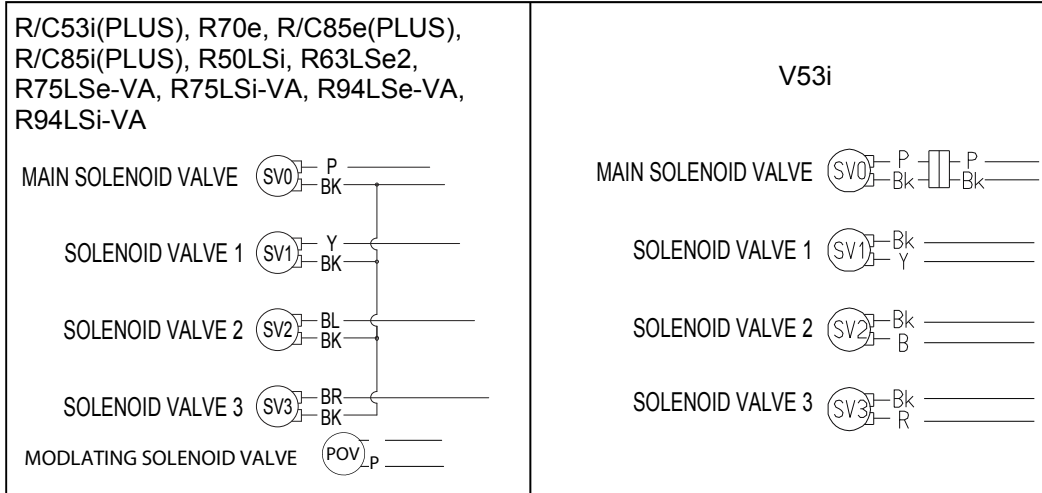

Figure 3
12. Attach wire harness to the solenoids as shown in Figure 3 below.